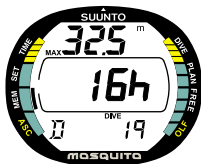

Fig. 5.9. Scuba Dive History Memory. Total number of dives, dive hours and maximum depth.
2. Wait two seconds until the Dive History Memory Mode activates automatically. The following scuba dive information will be shown on the display (Fig. 5.9.):